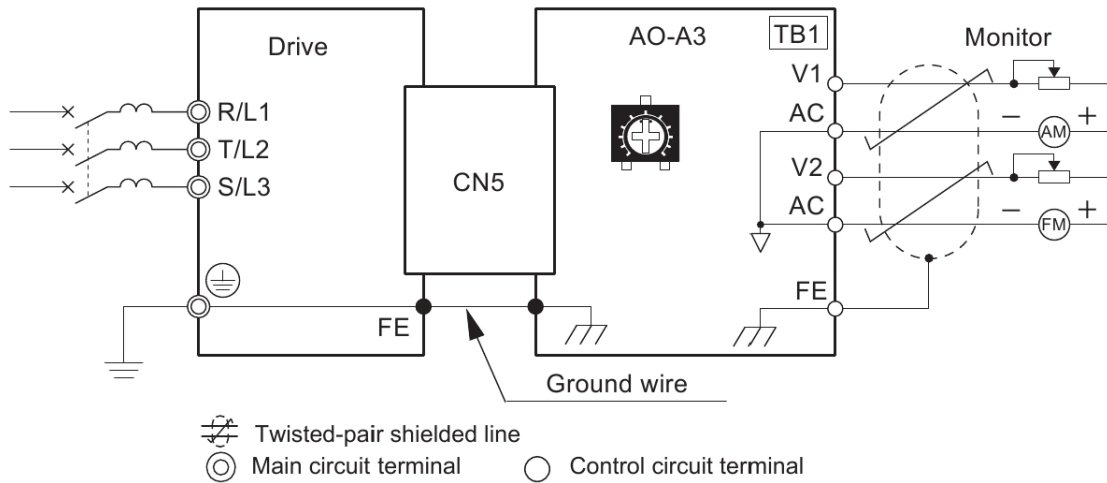

Figure 9: Option Connection Diagram
5. Wire the customer-supplied circuit to the terminal block on the option. Refer to Figure 9 for wiring instructions.